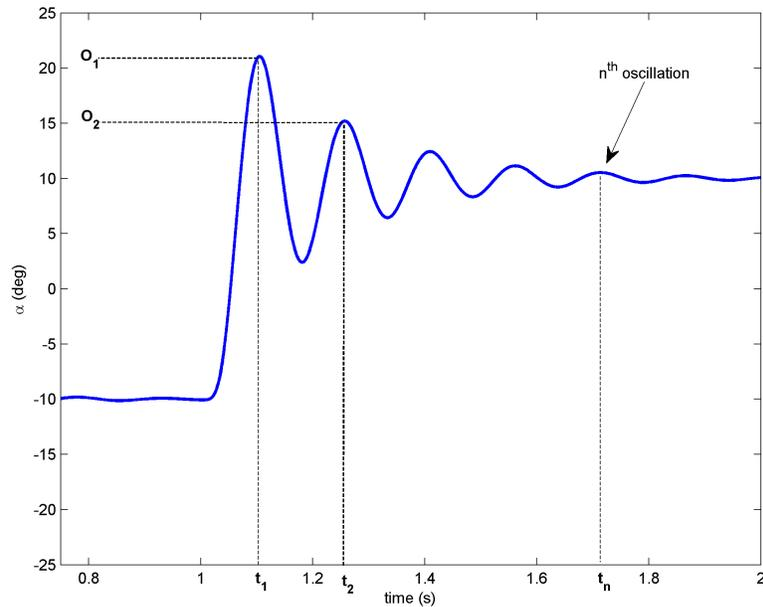

Figure 2.2: Free Oscillation Response
is shown in Figure 2.2. Assuming the initial conditions $x(0^-) = x_0$ and $\dot{x}(0^-) = 0$, the Laplace transform of Equation 2.11 is
3. Find the the natural frequency of the response shown in Figure 2.2 if the peak values for the first and fifth oscillation are: $t_1 = 1.12$ and $t_5 = 1.71$ seconds. Because the damping is low, assume the damped and undamped natural frequency are equivalent.